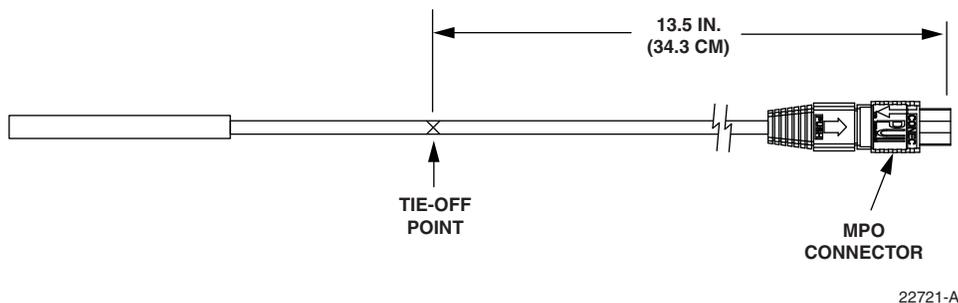

Figure 11. Marking Out Tie-Down Point
1. Measure out a length 13.5 inches (34.3 cm) from the connector and mark a tie-down point as shown in Figure 11. This is the point at which the cable will be tied to the rack.